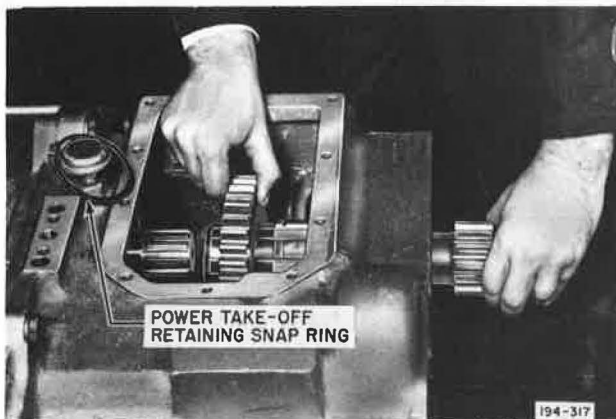

Figure 5-195. Installing P. T. O. Gear on Rear Countershaft
9. Position transmission horizontally. Start rear countershaft through rear bearing opening in case. While advancing countershaft, position power-take-off gear and gear retaining front snap ring on shaft. See Figure 5-195. Where oil slinger is incorporated, instead of power-take-off gear, advance countershaft and install slinger retaining spring on shaft. With flared lip of slinger toward the rear, install slinger and slinger retaining front snap ring.